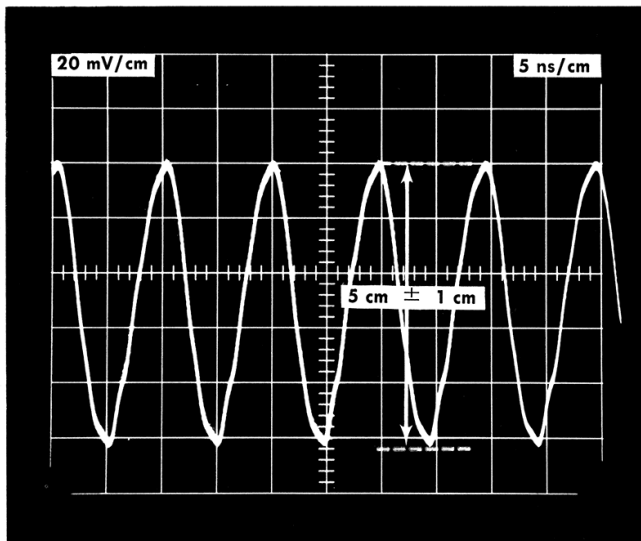

Fig. 6-21. Typical display for step 11 and similar display for step 12 showing Sine Wave amplitude.
b. Slight adjustment of the Trigger Level control on the Type 5T3, and position control adjustments may be necessary to observe a 5 cycle sine wave display; see Fig. 6-21.